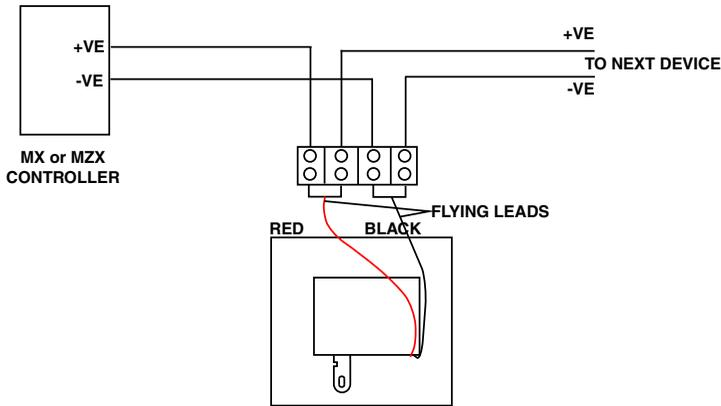

Fig. 5: CP820/CPM820M - Simplified Wiring Diagram
Cables are to be selected in accordance with the MX design document. Cabling should be connected as shown in Fig. 5 on page 4 ensuring correct polarity. Couplers are to be used with MICC cable.
- All conductors to be free of earths. For typical wiring configuration, see Fig. 5 on page 4..